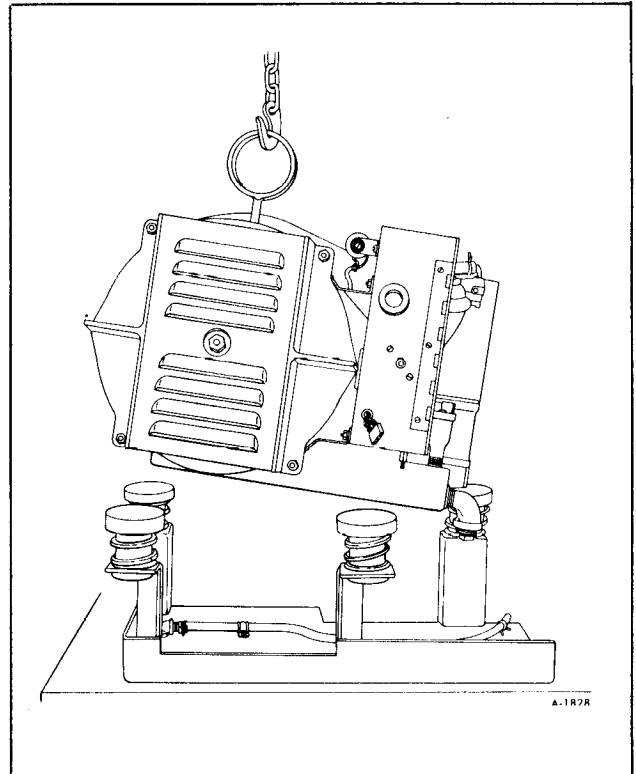

Figure 2—Separating Generator Set from Mounting Skid
5. Disconnect the fuel line running from the skid to the fuel pump at the fitting on the pump, remove the mounting screw from each of the four rubber mounts then lift the engine-generator off the mounting skid (figure 2).